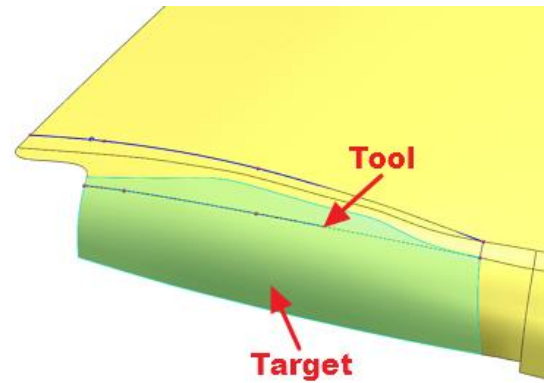

Figure 246
7. Repeat Step 6 using the lower spline and the side surface face. (**Figure 246**).